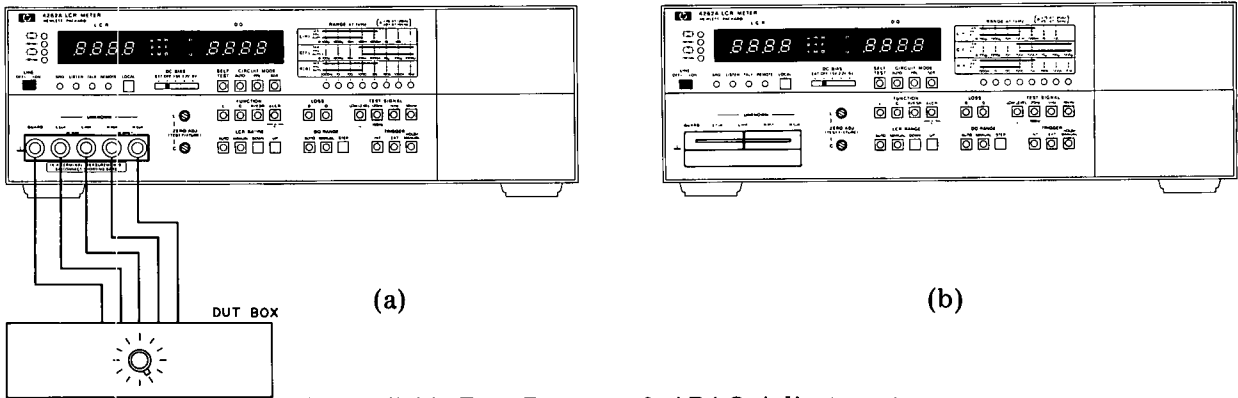

Figure 5-11. Zero Detector & APAO Adjustments.
- e. Connect Test Leads (HP P/N: 16361-61605) between 4262A UNKNOWN terminals and 16361A DUT Box as shown in Figure 5-11 (a).
- b. Attach HP 16061A Test Fixture to 4262A UNKNOWN terminals as shown in Figure 5-11 (b).